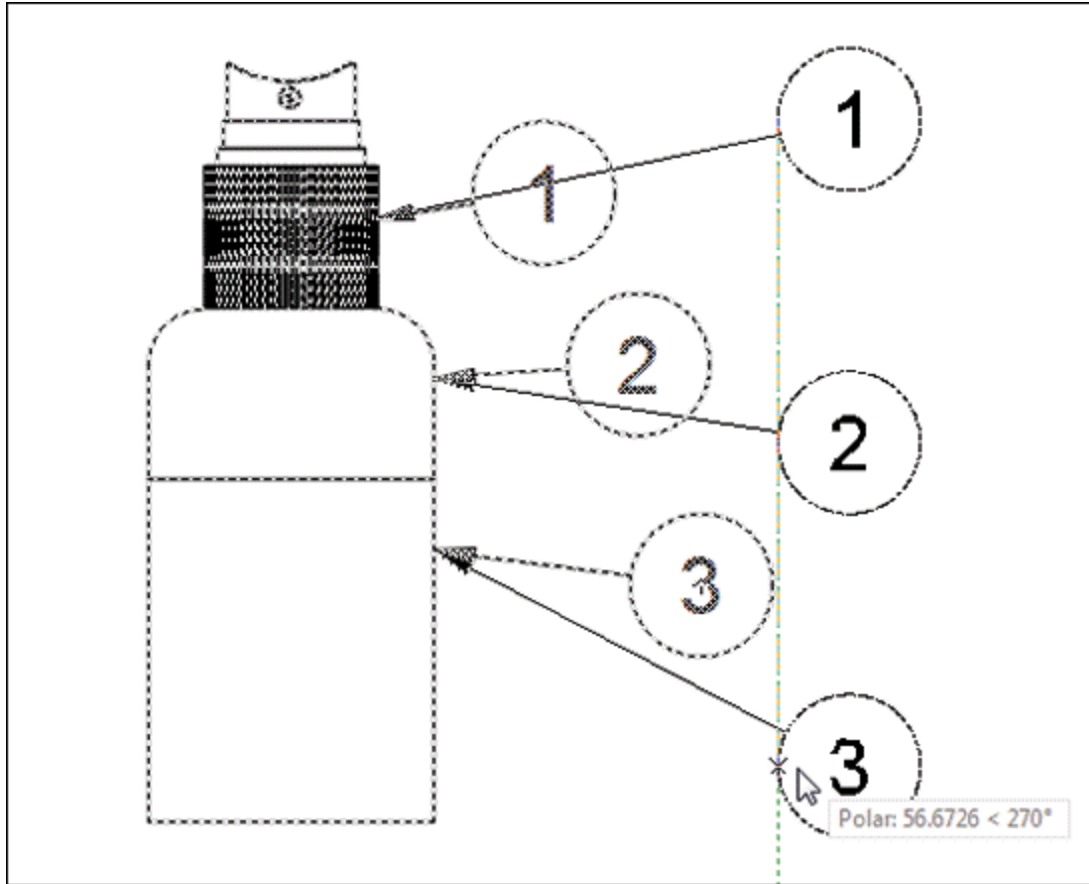

Figure-131. Performing alignment process
- Click on the screen at desired location to define alignment of balloons; refer to Figure-131.